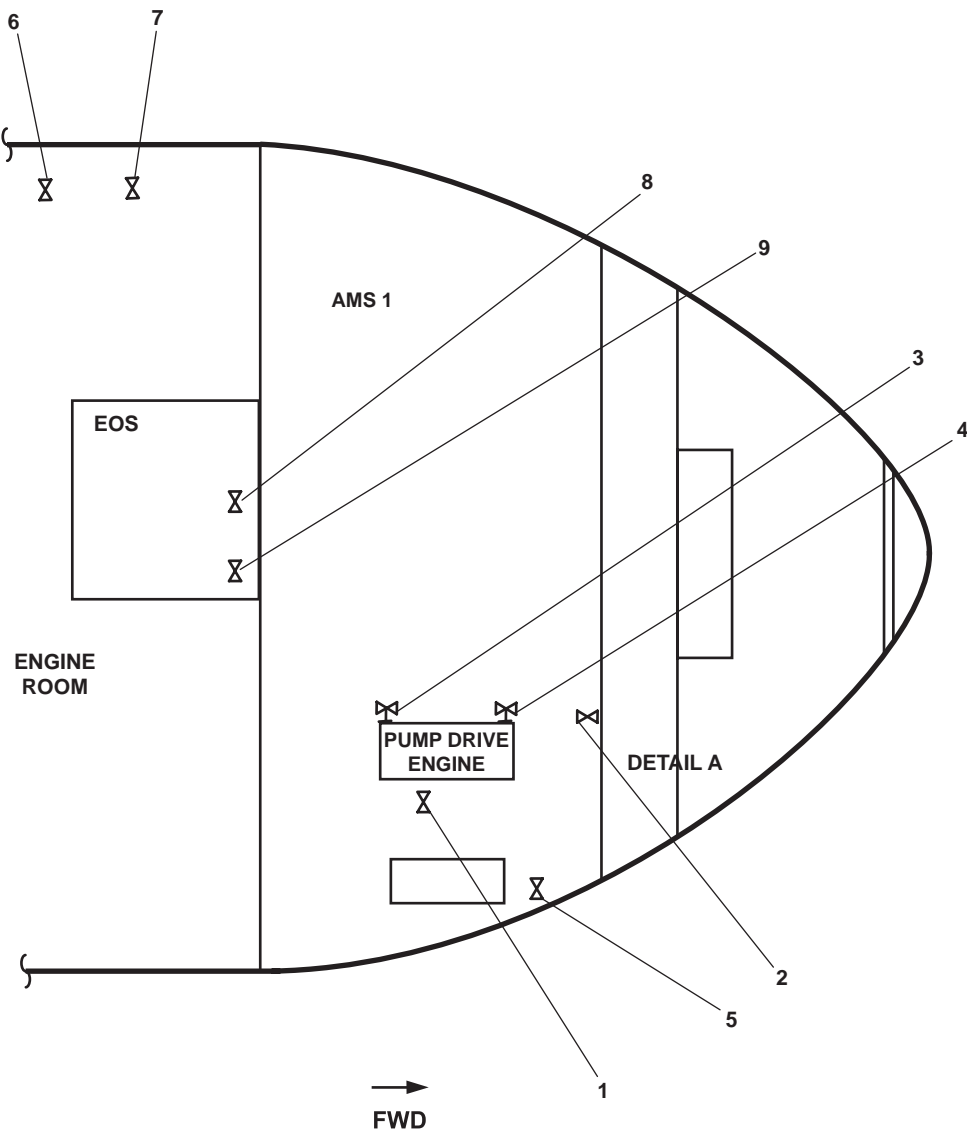

Figure 2. Towing Machine Hydraulic System Valve Locations
- i. FO-31, F.O. SPLY TO PMP DRV ENG (figure 2, item 1)
- j. CA-6, STG AIR TO PMP DR ENG (figure 2, item 2)
- k. Asw-19, S.W. TO PUMP DRIVE ENG (figure 2, item 3)
- l. Asw-20, S.W. FR. PUMP DRIVE ENG. TO OVB'D DISCHARGE (figure 2, item 4)
- m. Asw-22, OVB'D DISCH., S.W. COOLING (figure 2, item 5)
- a. FO-33, F.O. RTN TO DAY TK. PORT (figure 2, item 6)
- b. FO-13, F.O. SERV. SUCT. PORT (figure 2, item 7)
- c. AE-28, SEACHEST VENT (figure 2, item 8)
- d. Asw-17, SEA SUCTION S.W. COOLING (figure 2, item 9)
- a. AE-28, SEACHEST VENT (figure 2, item 8)
- b. Asw-17, SEA SUCTION S.W. COOLING (figure 2, item 9)